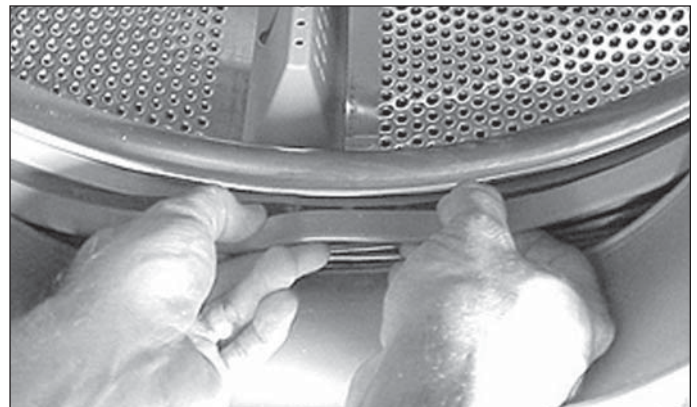

Figure 4-44.
4. Work your way about one third way around the tub, then pull in on the inside flap of the bellows to seat the bellows into the lip of the tub. (See Figure 4-44)